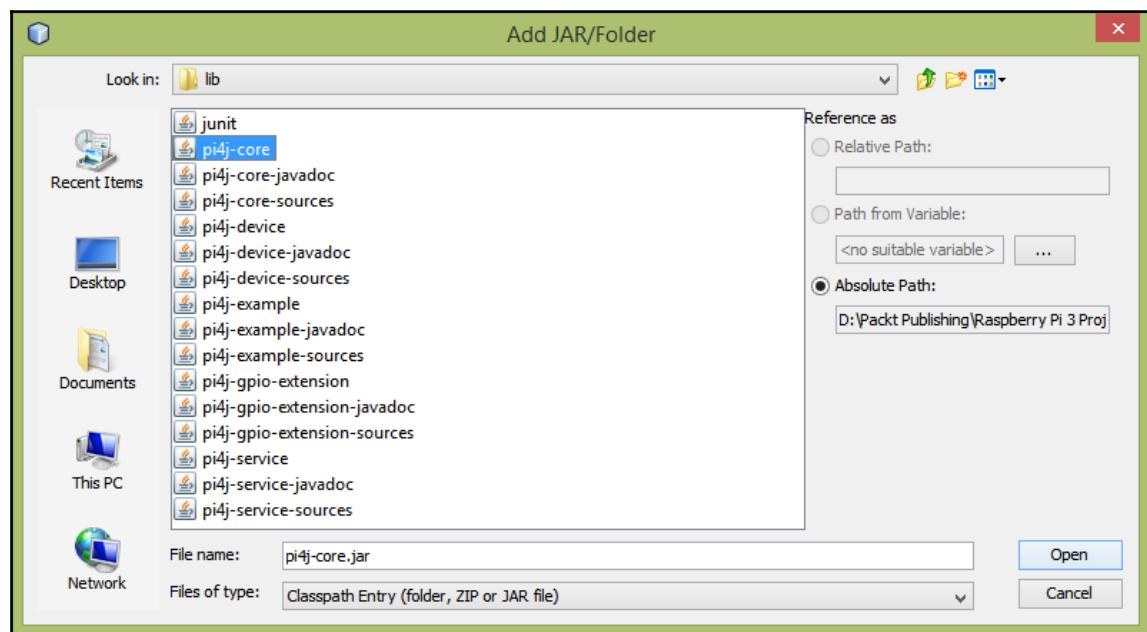

Figure 4-29: Locating the pi4j library
2. The **Add JAR/Folder** dialog box will appear to locate the jar file for the `pi4j` library (Figure 4-29). The `pi4j-core.jar` file is in the `pi4j-1.1\lib` folder. Select the `pi4j-core` file and click the **Open** button: